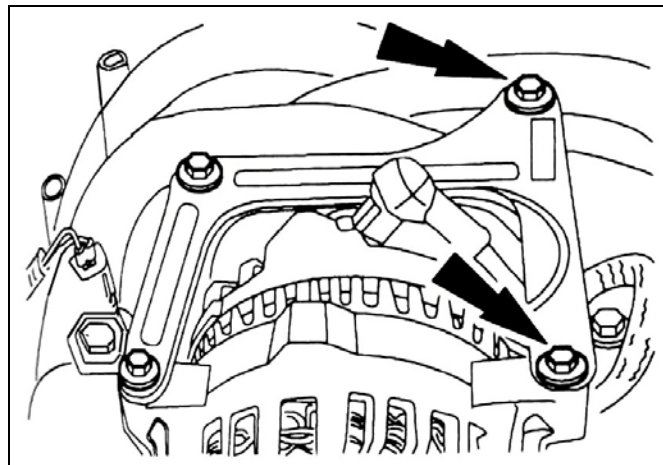

Figure 16
25. Remove the two driver side screws of the upper alternator support bracket (Figure 16).